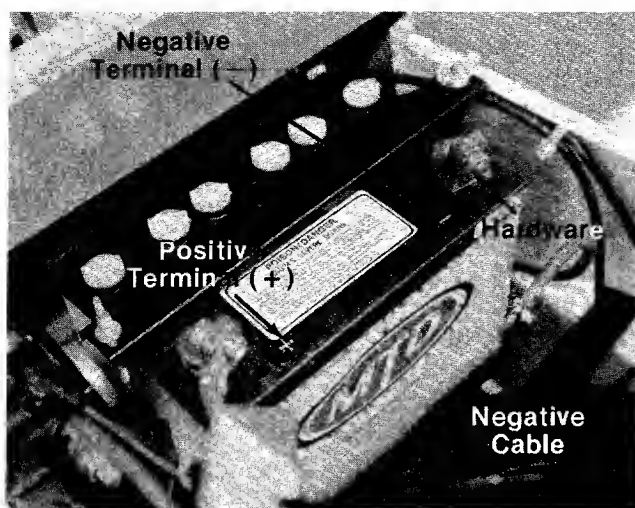

FIGURE 4.
The battery on this model lawn tractor is already installed at the factory. See figure 4.
6. The negative (-) cable must be attached to the negative terminal. The hardware for installation is already in the negative terminal. See figure 4.